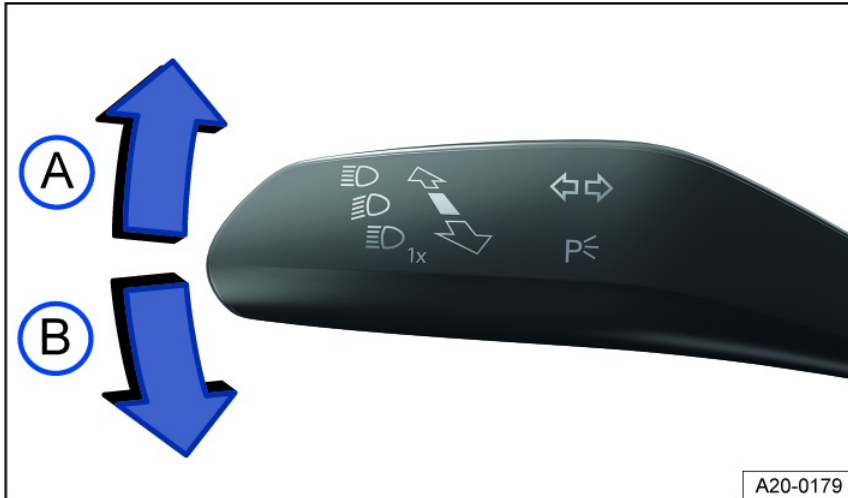

Fig. 71 On the left side of the steering column: turn signal and high beam lever.
2. Move the turn signal and high beam lever from the center position to the preferred position fig. 71.